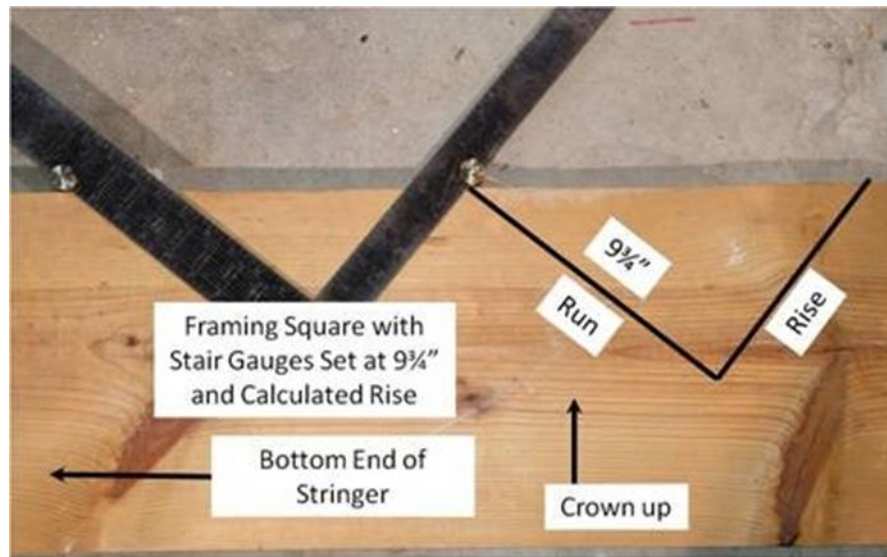

Figure 4-6. Stair Stringer Layout.
2. Attach stair gauges to the framing square and locate the precise dimensions calculated in Section 4.5.1 for run and rise. If the rise is $7\frac{3}{4}$ " , set the gauge to this dimension on the short side of the square; set the gauge to $9\frac{3}{4}$ " on the long side of the square (see Figure 4-6).